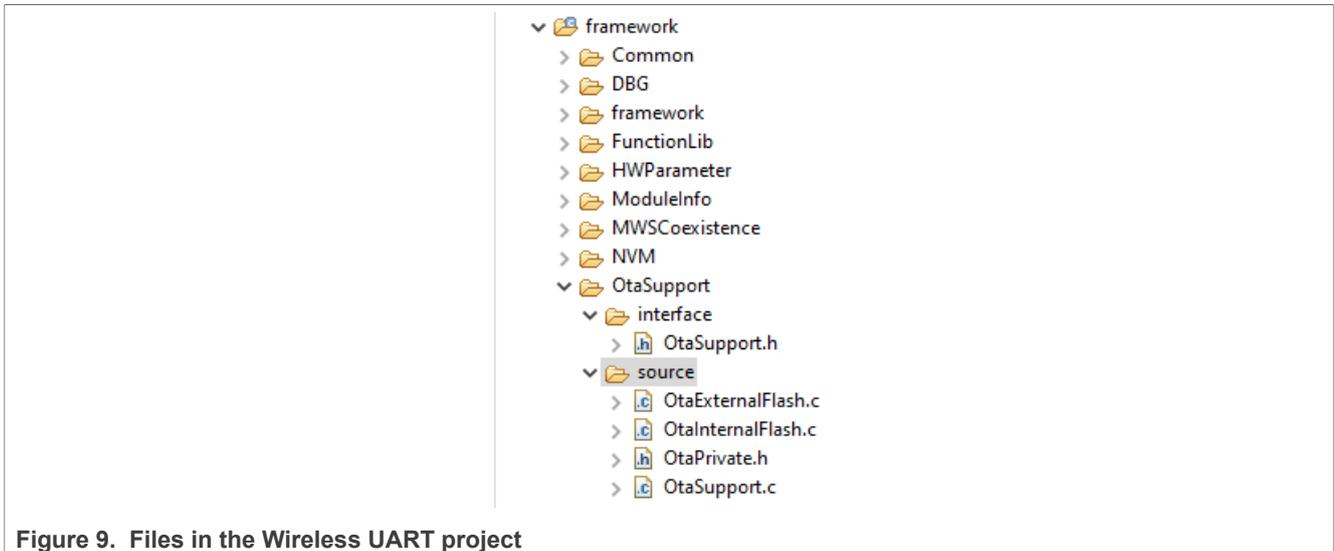

Figure 9. Files in the Wireless UART project
4. Copy the files inside all the recently created folders from the OTAP client and save it into your project. Ensure that all the files are in the same folder from the Wireless UART side. For this example, these files are listed in Figure 9.